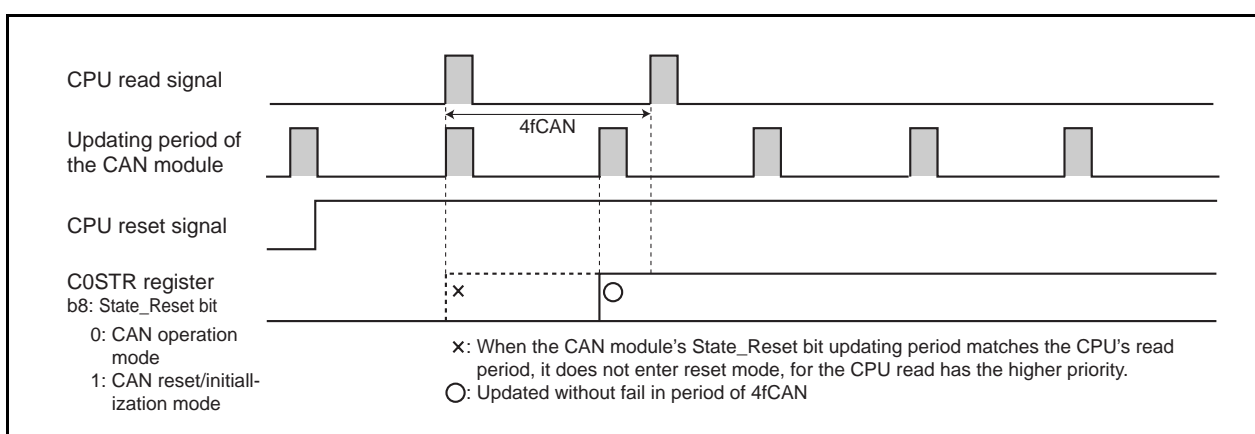

Figure 22.10 When Polling Period of CPU is 3fCAN or Longer
- When the CPU polls the C0STR register, the polling period must be 3fCAN or longer. (See Figure 22.10)